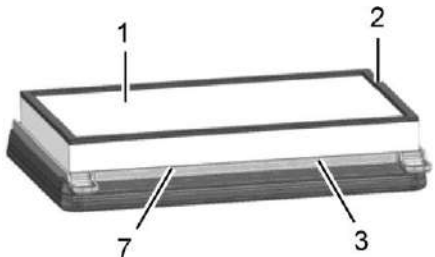

Fig. 13
If the machine is mainly used on carpet, you have to install the lint filter (Fig.13/7).
- 2. Unscrew the wing bolts (Fig.12/5). Pivot the filter support frame (Fig.13/3) down and remove it.
- 3. Mount the lint filter (Fig.13/7) between filter and the filter support frame